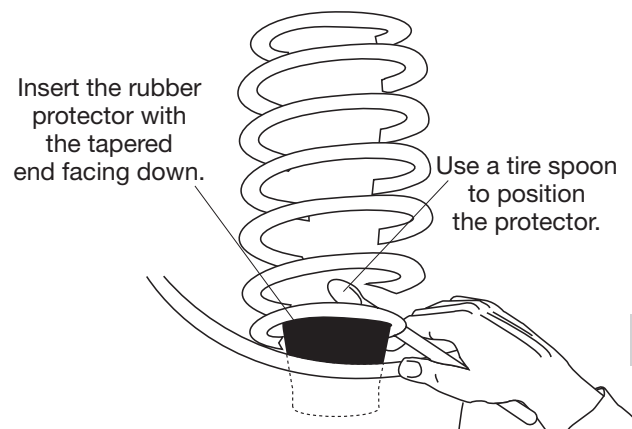

fig. 3
3. Install the lower protector (Figure 3) by dropping it through the upper coil spring seat with the tapered side facing down. Set the protector securely in place with a spoon-type tire iron.